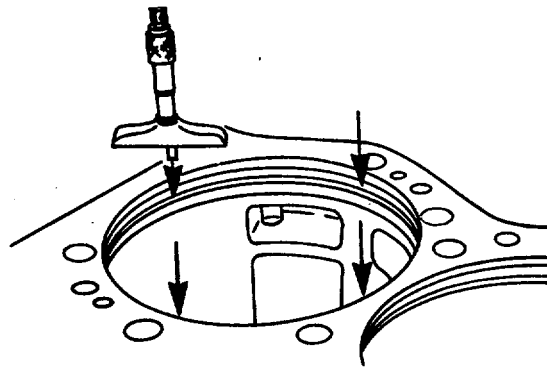

FIGURE 4-81. Counterbore Depth Measurement.
- (1) Measure counterbore depth with a depth micrometer at the four locations shown in FIG. 4-81. Verify measurements are within 0.001 inch (0.25 mm) of each other and are within the specifications in Table 4-8 .